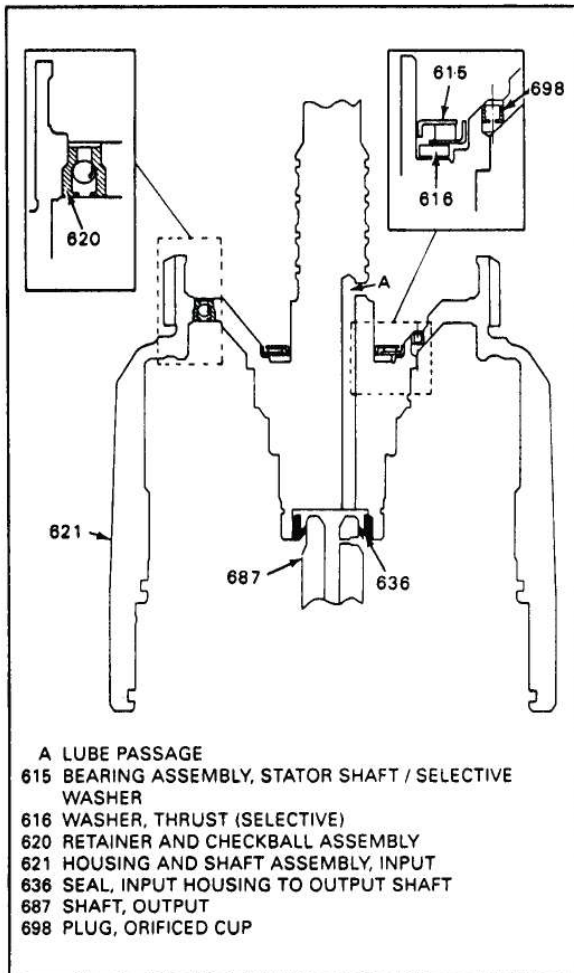

Figure 84
- * Presence of the three balls in the back side of turbine shaft. The open hole is the lube oil passage which feeds the output shaft. See passage "A" in Figure 84.
- * Presence of orificed cup plug in the top of the input housing, Figure 84.